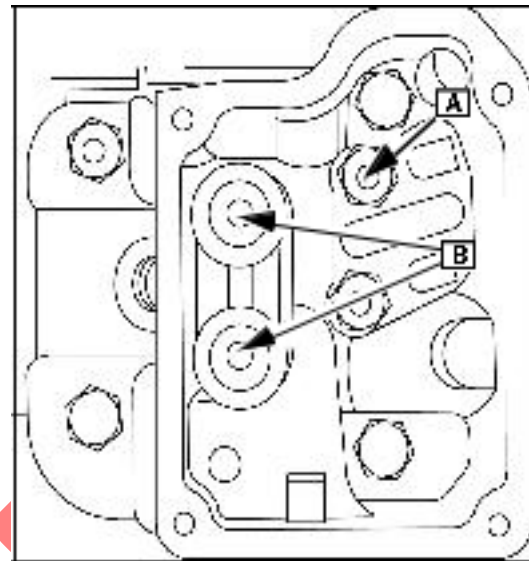
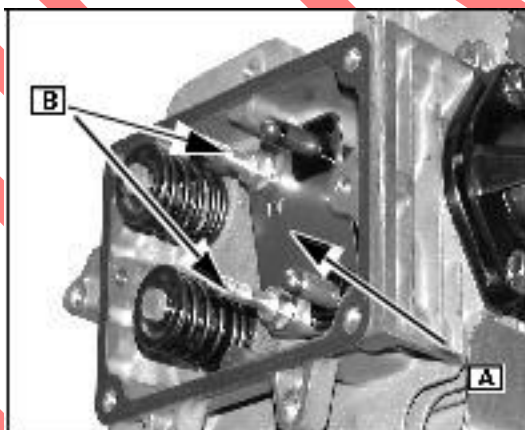

Fig. 18
Fig. 17
Torque studs ([B] Fig. 17 and Fig. 18) to value listed in **SECTION 14- ENGINE SPECIFICATIONS.**
Place push rod guide (A) in cylinder head with word "TOP" (except 104700) toward Mag. side of cylinder head, Fig.17 or